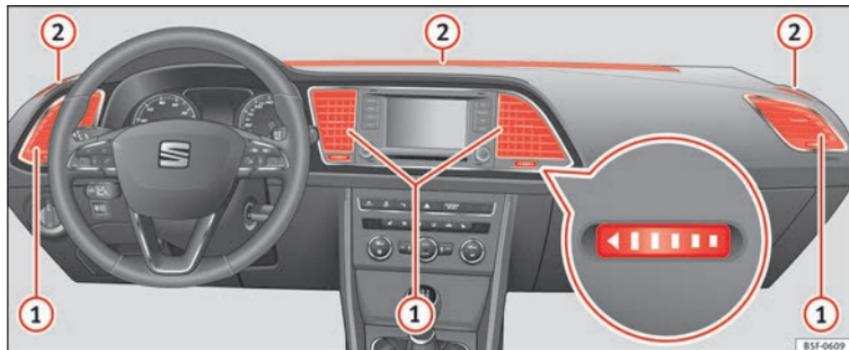

Fig. 140 On the dash panel: air vents
To ensure proper heating, cooling and ventilation in the vehicle interior, air vents » Fig. 140 ① should remain open.